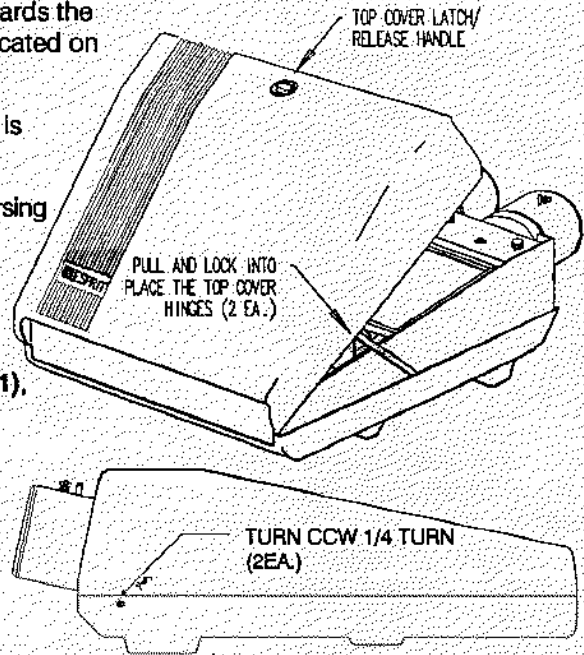

FIGURE 5-5.
- STEP 1A. EARLY REVISION: Lift and lock the top cover up. The top cover may be lifted by, (1): pulling the quick release handle located at the front of the system on the top cover, this will allow the top cover to tilt-up, (2) pull and lock the 2 ea. hinges located on either side. See Figure 5-5.
- STEP 1B. LATER REVISIONS: The top cover may be lifted by, (1): turning the 2 ea. 1/4 turn fasteners located on both sides of the bottom cover towards the front of the system, (2): pull and lock the 2 ea. hinges located on either side. See Figure 5-5.
- STEP 1. Remove the top cover. Refer to Section 5.6.1, Step 1 and figure 5-5.